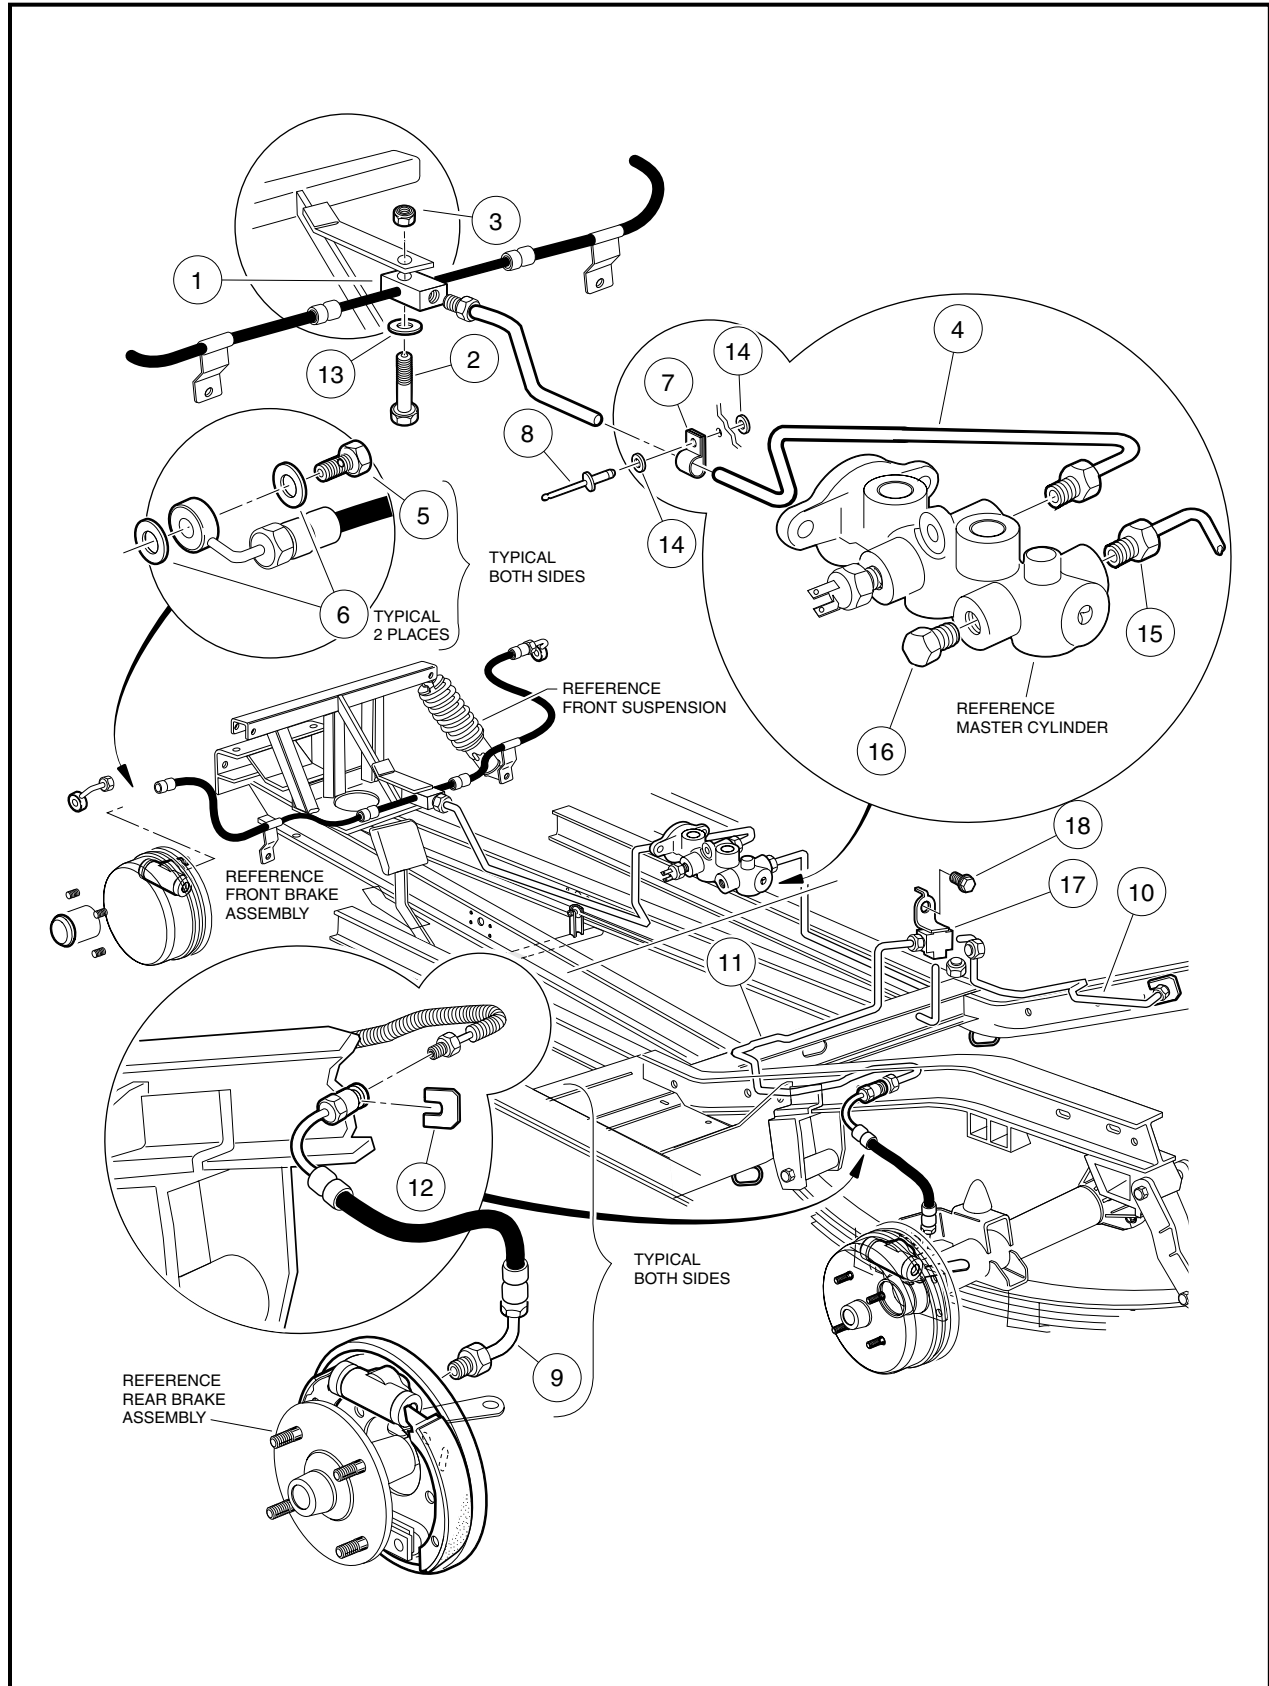
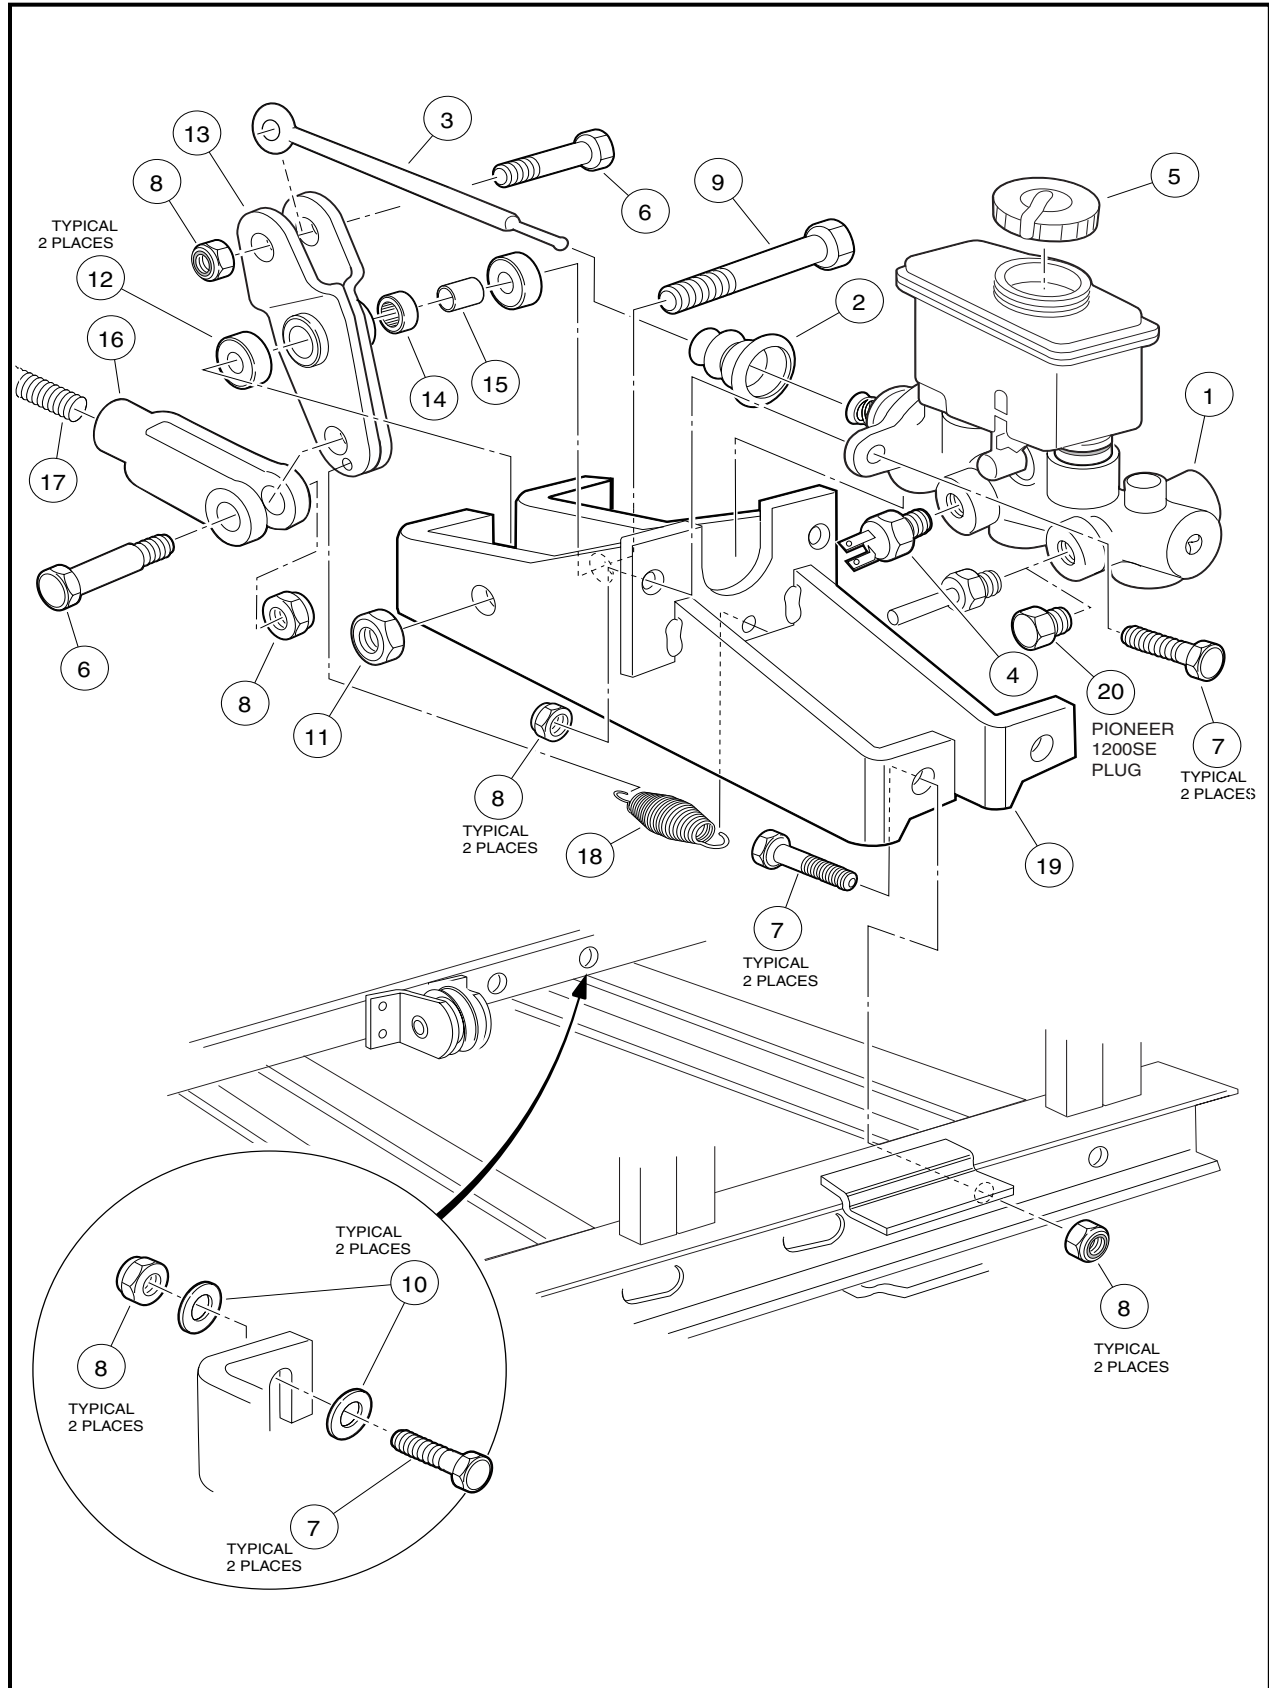

Figure 6-21 Pioneer 1200SE Four-Wheel Hydraulic Brake System
Figure 6-22 Master Cylinder
- 2.4. Use a 3/8-inch flare nut wrench to remove rear brake line (15) from the master cylinder **(Figure 6-21, Page 6-28)**.
- 2.1. Install brake tee (17) to vehicle frame plate using hex-head 1/4-20 x 3/4-inch bolt (18) and tighten to 65 in-lb (7.345 N·m) **(Figure 6-21, Page 6-28)**.
5. Use a 3/8-inch flare nut wrench to remove the rear brake line (10 or 11) from the rear brake hose at the I-beam of the vehicle frame **(Figure 6-20, Page 6-25 or Figure 6-21, Page 6-28)**.
6. Remove the horseshoe clip (12) that secures the rear brake hose (9) to the I-beam frame and remove brake hose (9) through the oval-shaped hole in the vehicle I-beam.
1. Install brake hose (9) through the oval-shaped hole in the vehicle I-beam, and install the horseshoe clip (12) that secures the brake hose to the I-beam frame (**Figure 6-20, Page 6-25 or Figure 6-21, Page 6-28**).
3. Install the rear brake line (10 or 11) to the rear hose (9) at the I-beam of the vehicle frame (**Figure 6-20, Page 6-25 or Figure 6-21, Page 6-28**). Tighten to 11 ft-lb (14.9 N·m).
2. Remove the brake rod clevis bolt (6) and clevis (16) from the bell crank assembly (13) (**Figure 6-22, Page 6-30**).
3. Remove the spring (18) from the bell crank (13) and master cylinder mounting bracket (19).
4. Remove the push rod clevis bolt (20) and lock nut (21) from the bell crank (13).
5. Remove the bell crank bolt (9) and nylon lock nut (11) from the master cylinder mounting bracket (19) and remove bell crank (13) and two centering spacers (12).
6. Inspect the needle bearing (14) and the inner race (15) for damage or wear and replace if necessary (**Figure 6-22, Page 6-30**).
**NOTE:** The needle bearing (14) is press fitted to the bell crank. If replacement is necessary, the bearing must be pressed out and replaced (**Figure 6-22, Page 6-30**).
1. Install the bell crank bolt (9) through the two centering spacers (12) and bell crank inner bearing race (15) and tighten nut (11) to 25 ft-lb (40 N·m) (**Figure 6-22, Page 6-30**).
2. Install bolt (20) through push rod (3), bell crank (13), and nylon lock nut (21) and tighten to 14 ft-lb (19 N·m).
3. Install brake rod clevis bolt (6) through clevis (16) and bell crank (13) and tighten to 19 ft-lb (25.8 N·m).
4. Install spring (18).
3. Remove the two wires from the master cylinder pressure switch (4) (**Figure 6-22, Page 6-30**).
4. Use a 7/16-inch flare nut wrench to remove the brake line (4) from the master cylinder (**Figure 6-20, Page 6-25 or Figure 6-21, Page 6-28**).
- 6.1. Use a 3/8-inch flare nut wrench to remove the brake line (15) from the master cylinder (**Figure 6-21, Page 6-28**).
8. Remove the two bolts (7) and nylon lock nuts (8) that secure the master cylinder (**Figure 6-22, Page 6-30**).
9. Remove master cylinder (1) from mounting bracket (19), push rod (3) and rubber boot (2).
1. Install master cylinder (1) into mounting bracket (19) and insert push rod (3), then seat boot (2) (**Figure 6-22, Page 6-30**).
2. Install two bolts (7) and nylon lock nuts (8) that secure the master cylinder (1) to the master cylinder mounting bracket (19) and tighten to 14 ft-lb (19 N·m).
3. Attach brake line (4) to master cylinder and tighten flare nut fitting to 11 ft-lb (14.9 N·m) (**Figure 6-20, Page 6-25 or Figure 6-21, Page 6-28**).
- 5.1. Attach brake line (15) to master cylinder and tighten flare nut fittings to 11 ft-lb (14.9 N·m) (**Figure 6-21, Page 6-28**).
6. Attach the two wires to the master cylinder pressure switch (4) (no particular orientation).